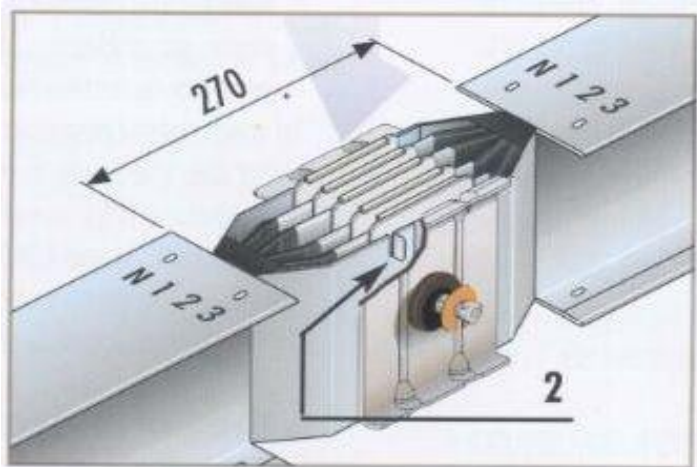

Fig. 8
- 2** check the 270 mm distance between the two elements, see figure 8. This check can be completed using the joint cap.